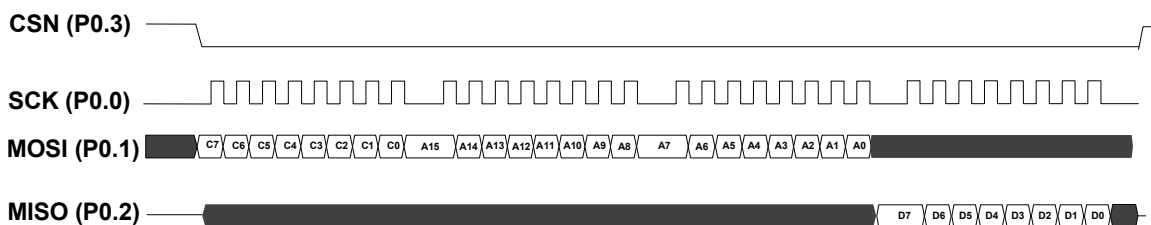

Figure 72. SPI flash read operation, shown with 1 databyte
2. The READ command is transmitted through the MOSI line followed by the two byte address to the byte to be read as shown in Figure 72. on page 146.